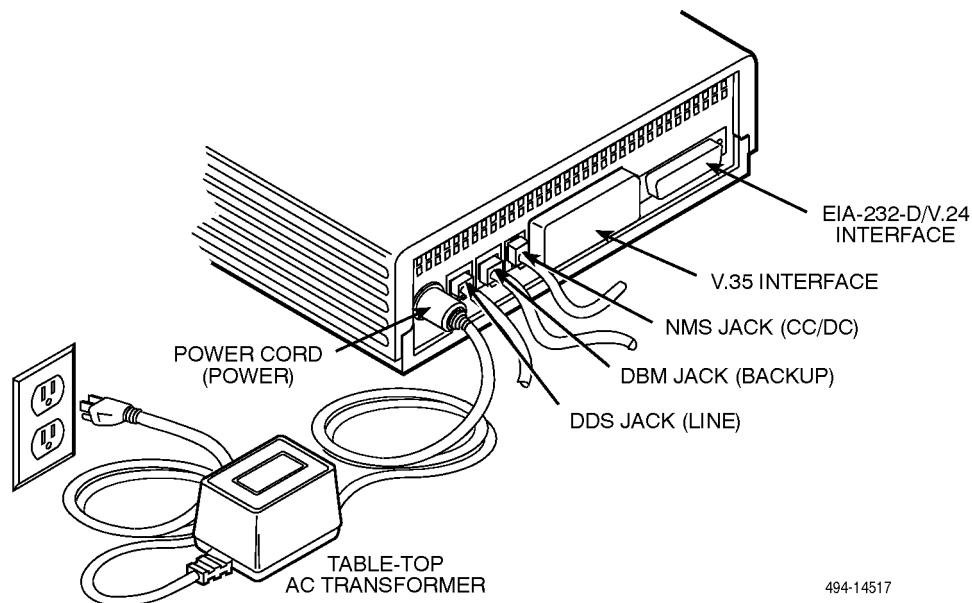

Figure 1. Disconnecting the DSU
Refer to Figure 1 as you follow these steps.
Refer to Figure 3 as you close the unit and to Figure 1 to reconnect cables.
3. Reconnect the power cord to the DSU (labeled POWER), referring back to Figure 1.